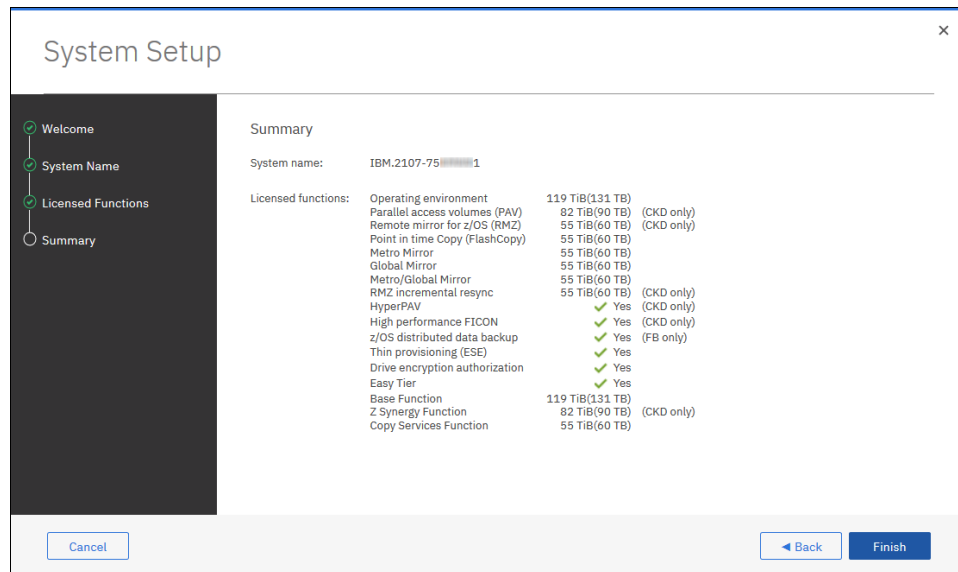

Figure 9-7 System Setup: Summary
- Click **Next** to open the Summary window, which is shown in Figure 9-7. If everything looks correct, click **Finish** to exit the System Setup wizard. After the wizard is closed, the System window opens.
**Note:** The Summary shows licenses for basic functions. The list might include some advanced functions such as Copy Services (CS), Z Synergy Services (zsS), and IBM Copy Services Manager on HMC if the corresponding licenses were activated.